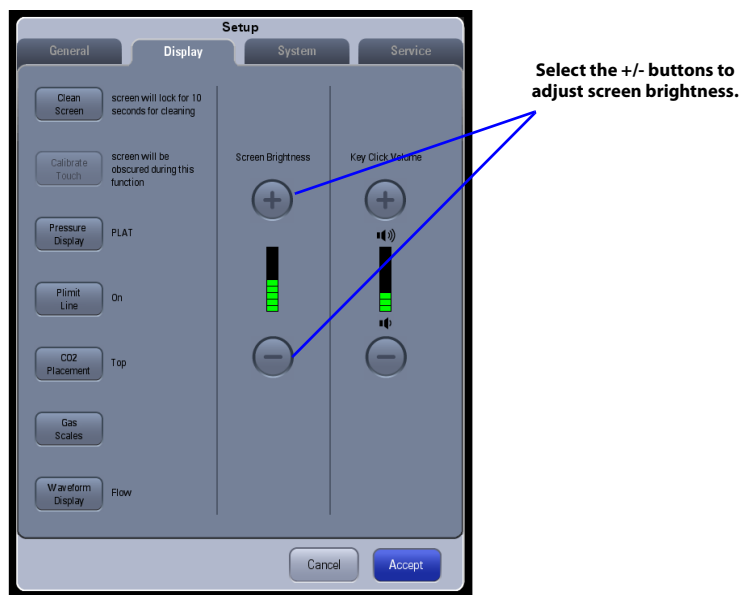

FIGURE 3-50 A5/A4 Display Tab> Screen Brightness Area
The **Display** tab provides access to screen cleaning, screen calibration, pressure parameter display, CO2 waveform placement, gas scales, waveform display, screen brightness and key click volume (see FIGURE 3-50).
1. Select **Setup** softkey > **Display** tab (See FIGURE 3-50).